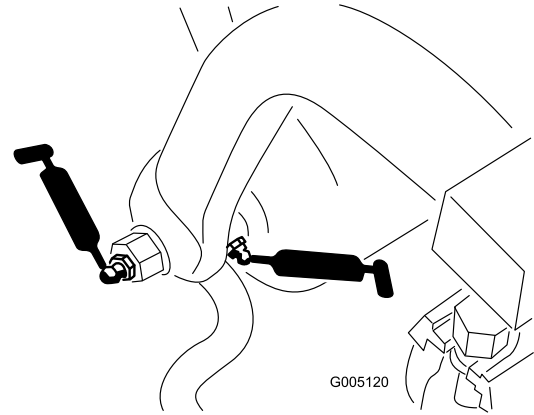

Figure 39
- Pull frame shaft and roller (12) (Figure 39)